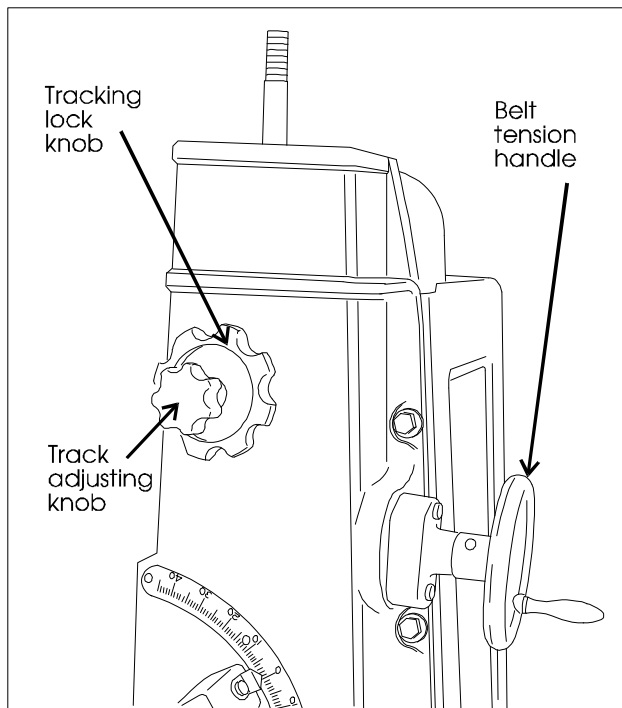

Figure 16: Belt adjustment components
4. Release belt tension by turning tension handle in a counterclockwise direction. (See Figure 16.) If the handle is difficult to turn, refer to *Track Mechanism Maintenance*.